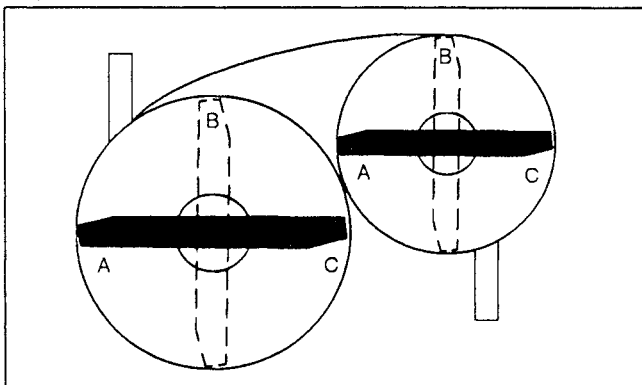
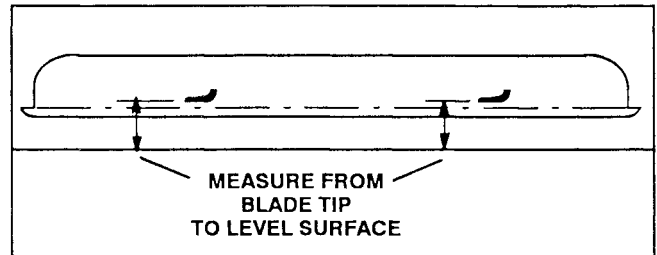

Figure 16
Figure 17
4. Position both blades in the "A" position (Fig. 16) and measure from level surface to the bottom of the tip end of each blade (Fig.17).
5. Note measurement attained at "A", rotate blades to "B" position (Fig. 16), measure distance of all blades to level surface and note dimensions (Fig. 17).
6. Rotate blades to "C" position, measure and note distance measured (Fig. 16).
**B.** Transfer one thrust washer from top side of castor shaft to lower side, install castor assembly and compare blade height of all blades; refer to items 3 through 7. Continue adding thrust washers if height still does not meet requirements.
**D.** Transfer one thrust washer from lower side of castor shaft to top side, install assembly and compare blade height of all blades; refer to items 3 through 7. Repeat procedure if height still does not meet requirements.